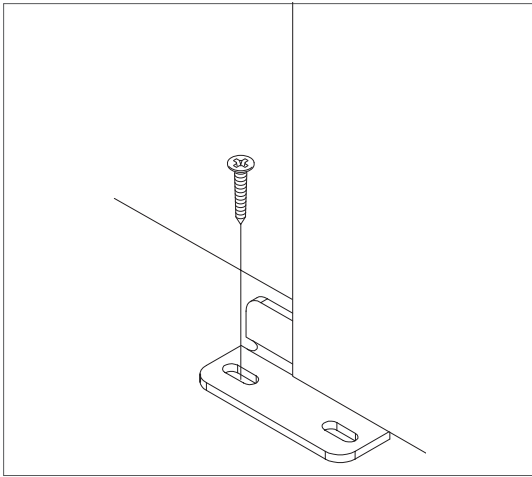

Figure 14
17. Position the Door Guide part way into the groove in the bottom of the door. (Figure 14).